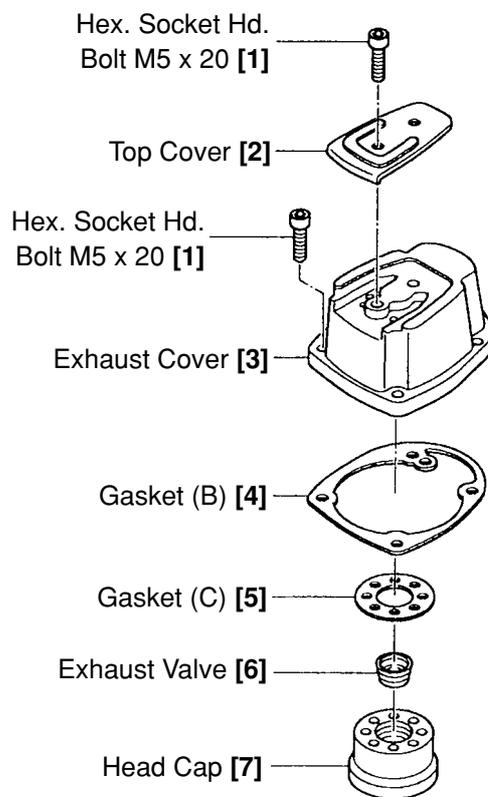

Fig. 12
(2) Head Cap [7], Exhaust Valve [6] and related parts (See Fig. 12.)
- Remove the two Hex. Socket Hd. Bolts M5 x 20 [1] and, such as illustrated in Fig. 12, disassemble the Head Cap [7], the Exhaust Valve [6] and Gasket (C) [5] in that order.